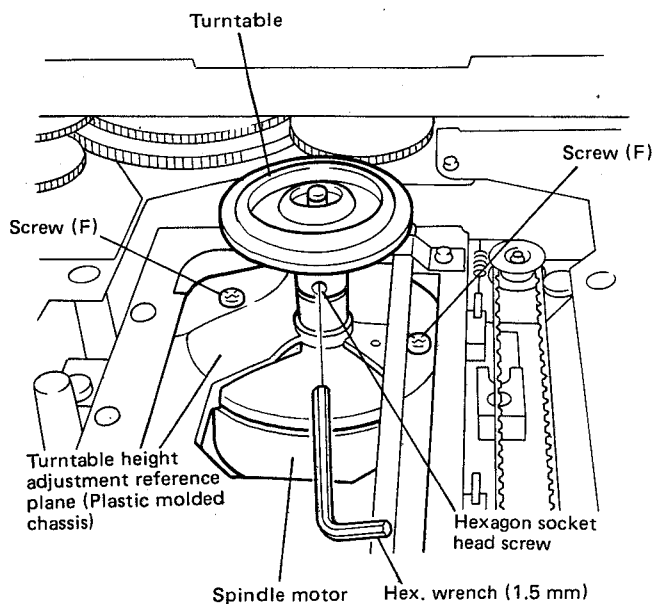

Fig. 21
3. Loosen the hexagon socket head screw using a hexagon wrench, then draw out the turntable from the spindle motor shaft. (Fig. 21)
4. Remove the screws (F) installing the spindle motor to the plastic molded chassis. (Fig. 21)
3. Place the turntable height adjusting device in close contact with the upper surface of the turntable in such a manner that its leg section comes above the height adjustment reference plane of the plastic molded chassis. (Figs. 21 and 24)